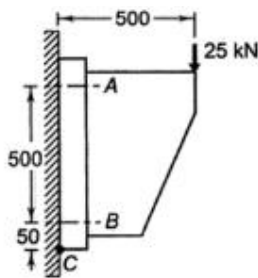

Fig.2
- b) A wall bracket is attached to a wall by means of four identical bolts, two at A and two at B, as shown in Fig.2. Assuming that the bracket is held against the wall and prevented from tipping about point C by all four bolts and using an allowable tensile stress in the bolts as  $35 \text{ N/mm}^2$ , determine the size of the bolts on the basis of maximum principal stress theory.